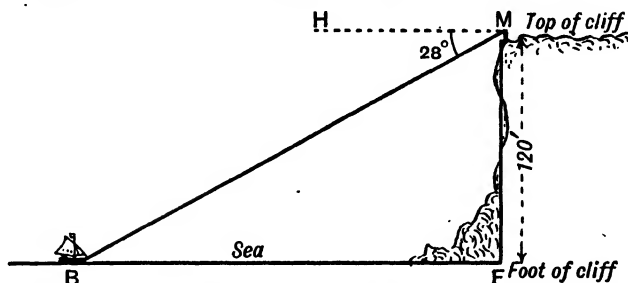

FIG. 88. DIAGRAM SHOWING ANGLE OF DEPRESSION OF A BOAT
3. A man, standing on the top of a cliff 120 ft. high, measures the angle of depression of a boat at sea and finds it to be  $28^\circ$ . How far is the boat from the foot of the cliff? (The man's eye is 5 ft. above the top of the cliff.) M is the man standing on top of the cliff. His eye is 125 ft. above the sea. MH is a horizontal line passing through the man's eye. B is the boat, Fig. 88.